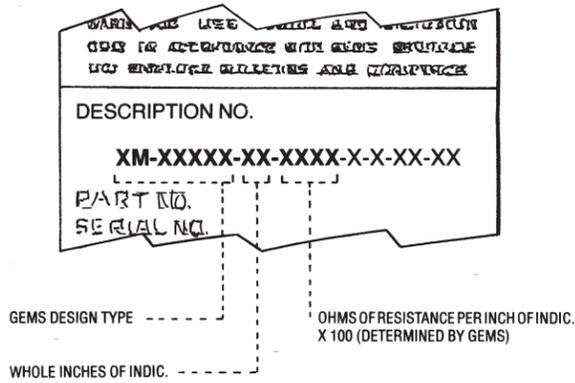

Fig 17
1. Measure resistance from red to black wires. Refer to I.D. tag attached to transmitter for proper resistance values for that particular system (See Fig. 17). This resistance should not change when float(s) are moved up and down. If it does change, see "Corrective Action".
\* Transmitter indication distance is included in the description (designation) number marked on the I.D. tag attached to the transmitter unit. See Fig. 17 for explanation of description number.